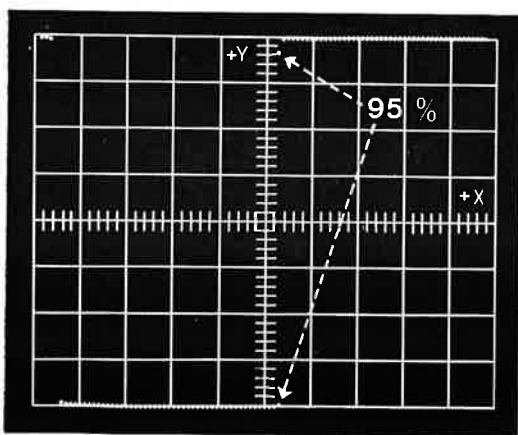

Fig. 3. Loop gain
5. Adjust A LOOP GAIN RV301 (print 1) for about 95% (76 mm) separation between the dots in the step. See fig. 3.